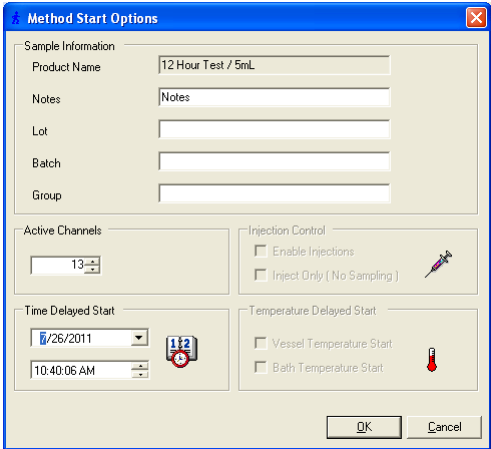

Figure 26 Method Start Options screen
- 11 Click **Start**. The Method Start Options screen displays (see Figure 26, “Method Start Options screen,” on page 84).